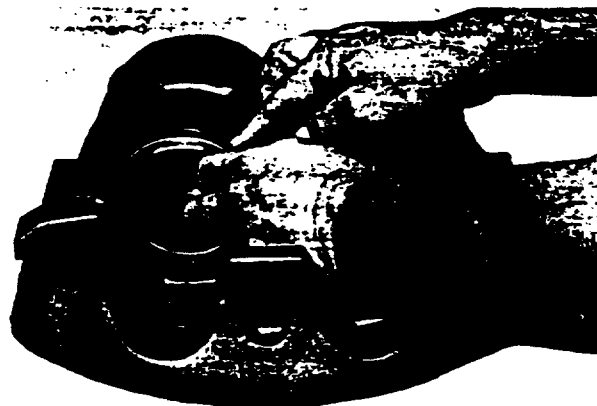

Figure 8-26. Inspecting Boots for Cracks and Cuts.
2. Wipe the inside of the caliper, clean and check the dust boots for cuts, cracks or other damage. If damage is noted the caliper should be overhauled. See Figure 8-26.